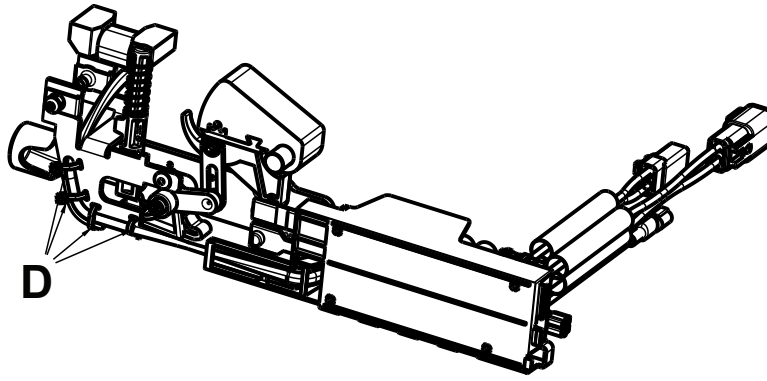

Figure 51 – Remove cable ties
10. Using diagonal pliers, cut the cable ties (D) that secure the coil wires to the wire management strap (Figure 51).